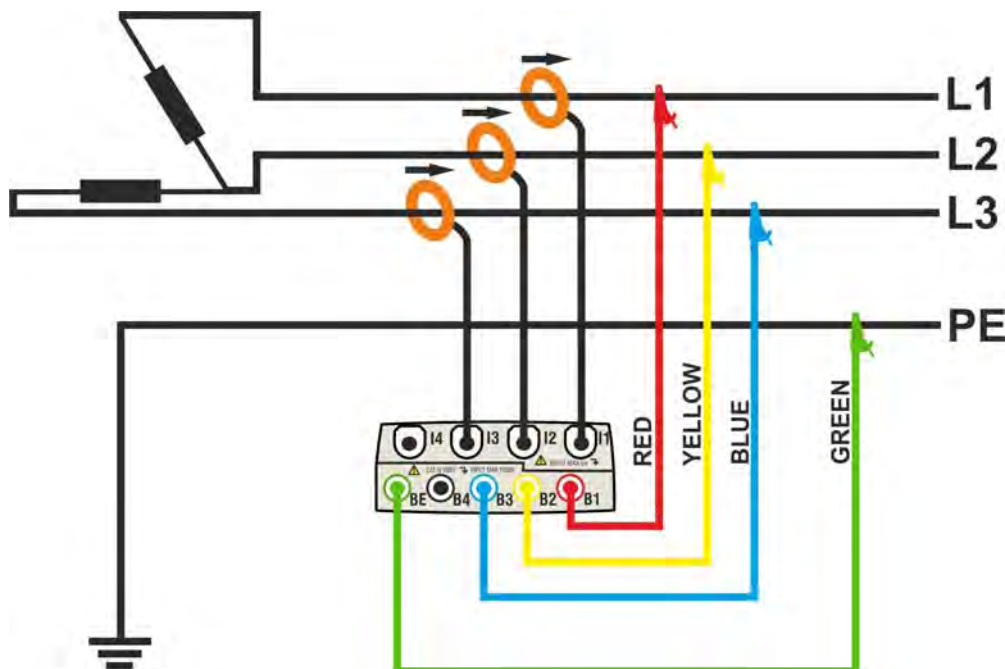

Fig. 125: Meter connection in a three phase 3-wire 3P OD system – ENG_UK type
2. Connect voltage test leads on Phases L1, L2, L3 and PE cables considering the colours as shown in Fig. 125. **Verify the result “123” at display relative to a correct phase sequence indication** (see § 5.2.1) and perform the corrections if necessary.
3. Connect the transducer current clamps on Phase L1, L2, L3 cables as shown in Fig. 125 respecting the clamp's arrow direction indicating the current standard sequence from generator to load. **On Real Time Values' section screens (selecting a 3 wire system preliminarily) always verify the positive value of Active Power and the power factor relative to load which should be normally inductive** before starting a recording. Reverse the clamp by 180 degrees on cables in case of negative readings.